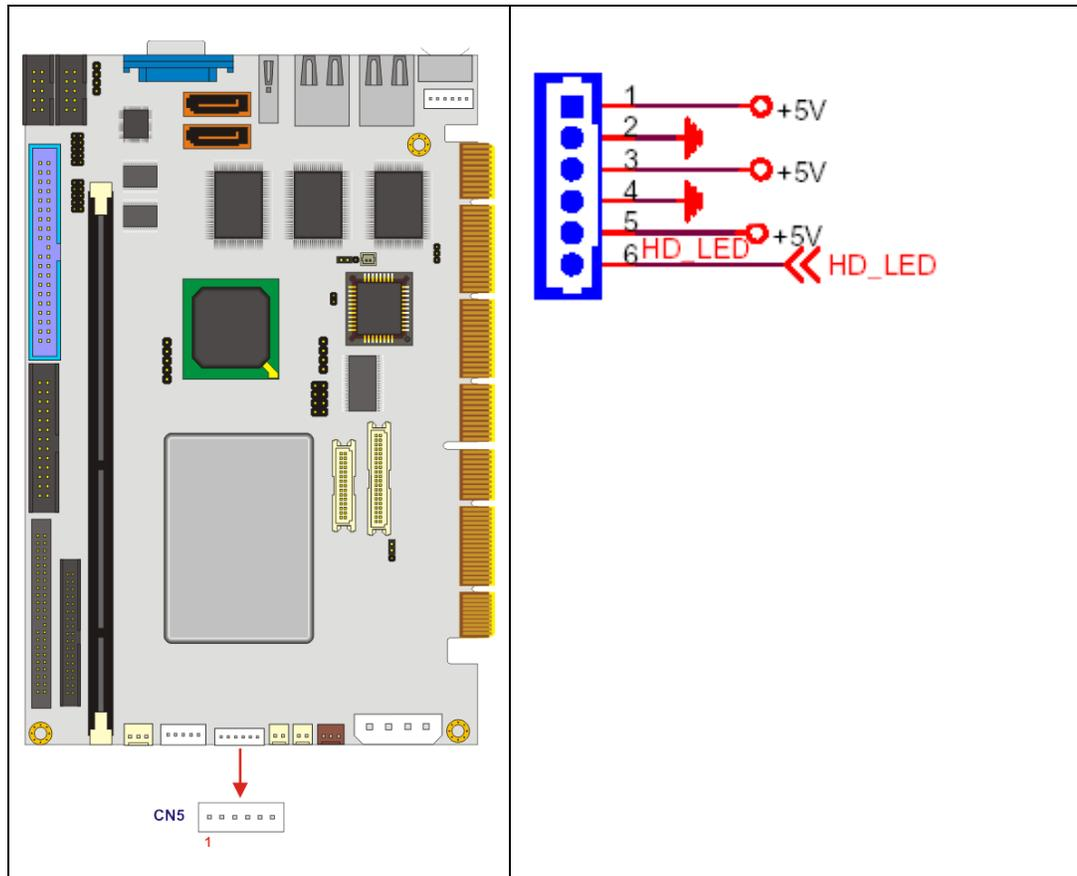

Figure 3-9: External LED Connector Location
- CN Location:** See **Figure 3-9**